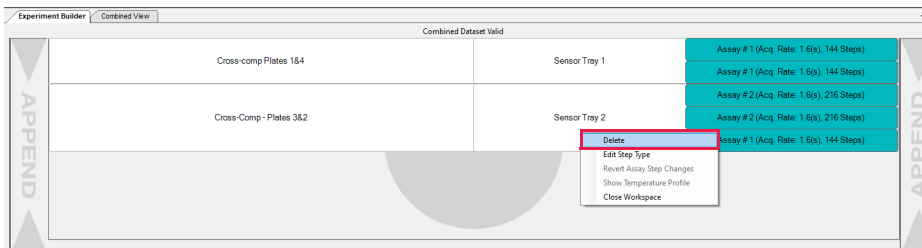

Figure 2-45: Deleting Files
4. If you want to remove files, right click the **Experiment Name, Sensor Tray or Assay** box for the file you want to remove and select **Delete** (Figure 2-45).